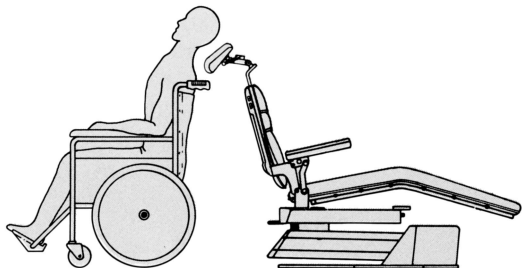

Figure 2. Wheelchair Use
- Slide the headrest up until it is free from the chair, turn it 180°, then slide it back into the backrest and push it all the way down. Run the chair to its full back up position. Adjust the headrest height by moving the chair up or down with the base UP/DOWN switch, then position the headrest as desired (see Figure 2).